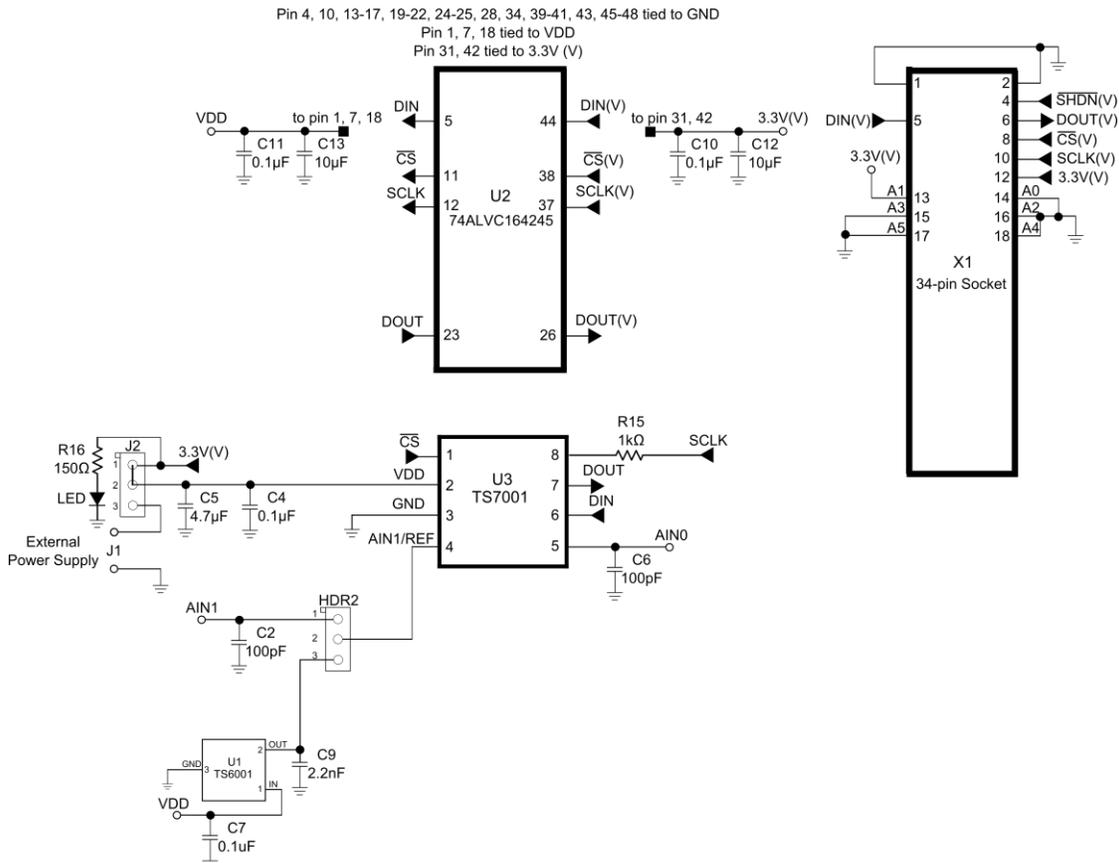

Figure 5. TS7001 Evaluation Board Circuit
Figure 5 shows the TS7001 demo board schematic, Figure 2 and Figure 3 show a picture of the top and bottom of the TS7001 demo board, respectively. Figure 1 shows a picture of the TS7001 demo board with the viperboard connected.
In order to evaluate the TS7001, jumper J2 is to be set to position 2-3 and jumper HDR2 is to be left unconnected. The default configuration for J2 and HDR2 is 1-2 and unconnected, respectively. Refer to Figure 5 and Table 1. The default configuration on the board is for $V_{DD} = +3.3V$. For this evaluation, we will use an external +3.6V power supply and an external +3.6V reference voltage. The following steps are to be performed:
- 1) Set the voltage of the power supply between +2.7V and +3.6V and turn it off. Connect the positive terminal of the DC power supply to pin 12 labeled as “3.3V” on X1, and the ground terminal to pin 2 labeled as “GND”. Refer to Figure 5.
- 3) To measure the supply current of the TS7001, place jumper J2 to position 2-3. Then, apply an external power supply to J1. An ammeter can now be connected in series with the power supply for a static supply current measurement of the TS7001. The supply current should be less than 900 μ A. Please refer to Figure 5 and table 1.